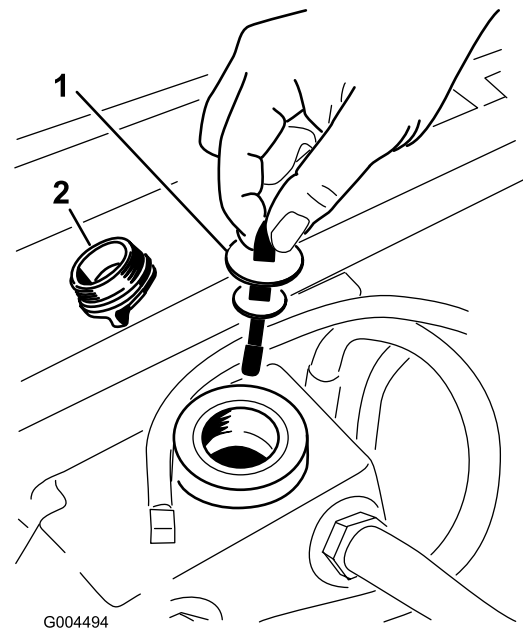

Figure 57
3. Remove the hydraulic fill cap (Figure 57) from filler neck.
4. Remove the dipstick and wipe it with a clean rag (Figure 57).
5. Place the dipstick into the filler neck; then remove it and check level of fluid (Figure 57).